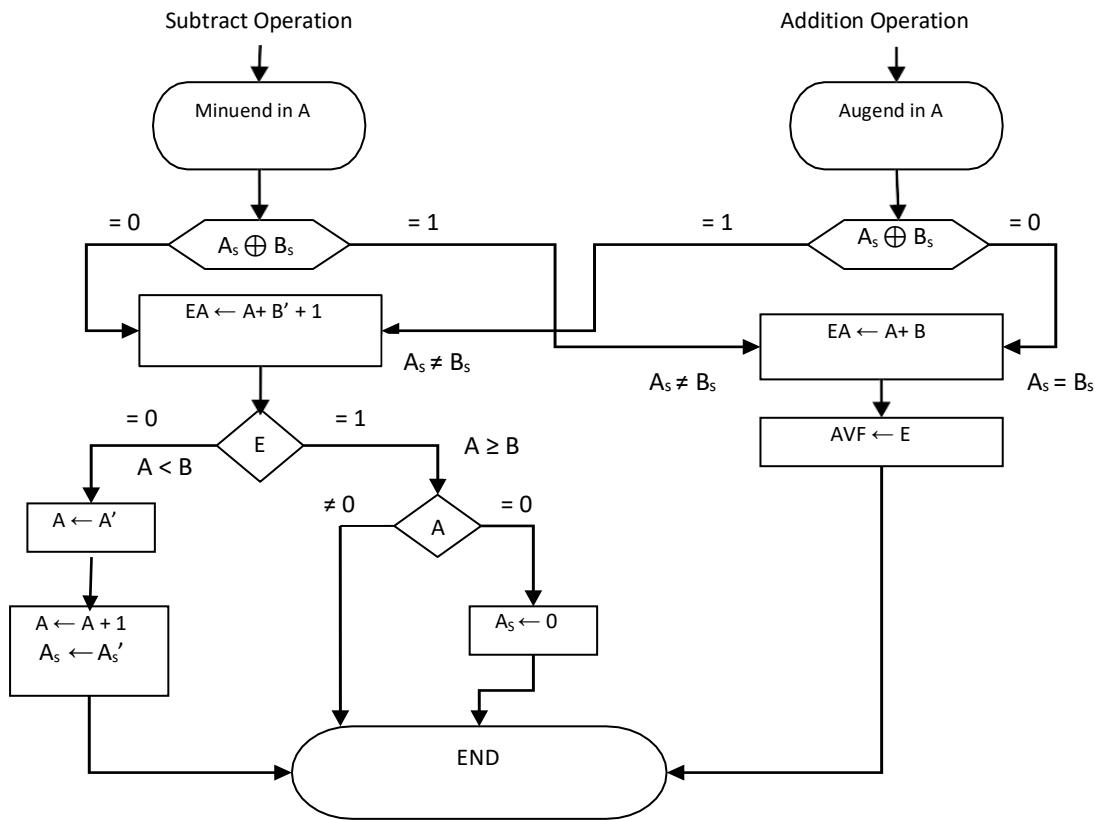

Figure 7.1: Flowchart for add and subtract operations.
- The flowchart is shown in Figure 7.1. The two signs A, and B, are compared by an exclusive-OR gate. If the output of the gate is 0 the signs are identical; If it is 1, the signs are different.